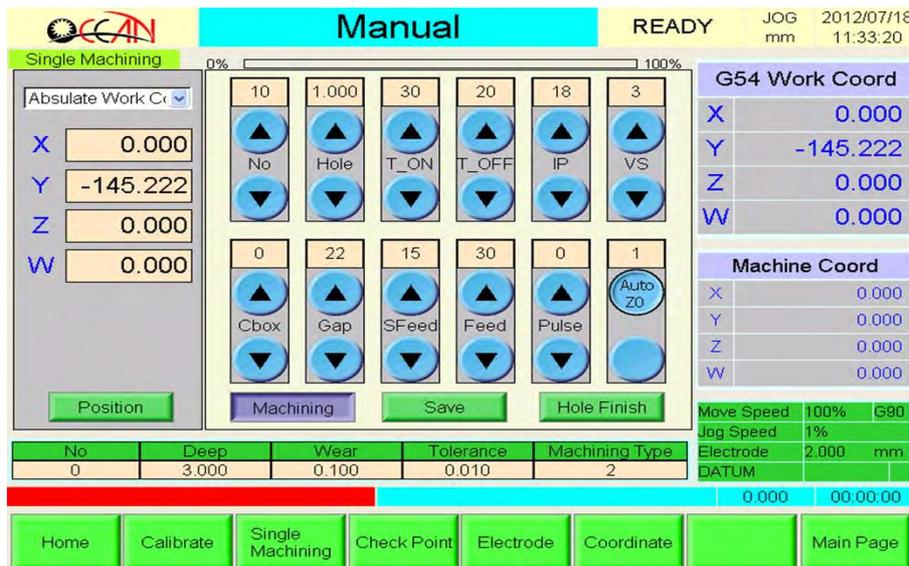

Figure 4-3-7 Single Mach Screen
**Single machining** provides for the system only processes a hole, purpose for single machining or workpiece material sparking parameters test, through a single hole spark machining test, quest for the best spark parameters and electrode consumption, for formal processing parameter of the set. Operation screen as shown in Figure 4-3-7.